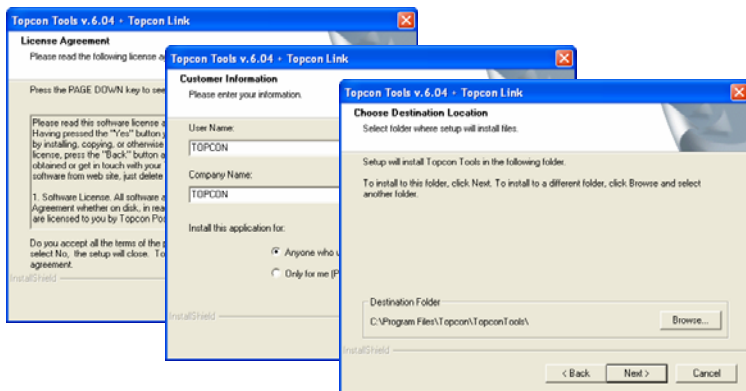

Figure 1-1. Begin the Installation
3. Click **Yes** to accept the License Agreement (Figure 1-1). Clicking **No** terminates the installation.
4. Type *User Name* and *Company Name* information, then click **Next** (Figure 1-1).
5. Either keep the default installation folder or click **Browse** to select a different folder in which to install the Topcon Tools. Click **Next** to continue (Figure 1-1).